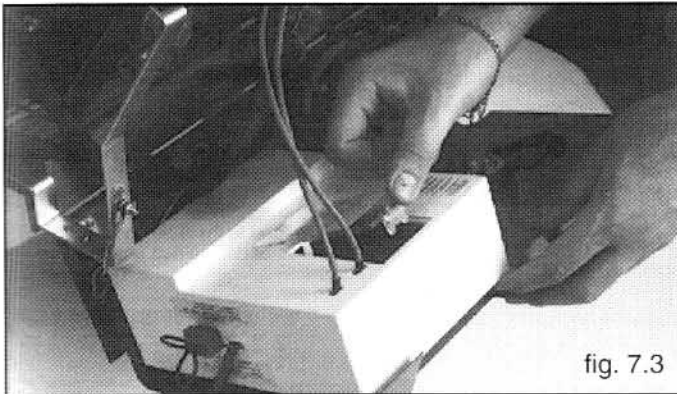

fig. 7.3
- 2 Remove the transparent back cover of the pcb (fig.7.3);